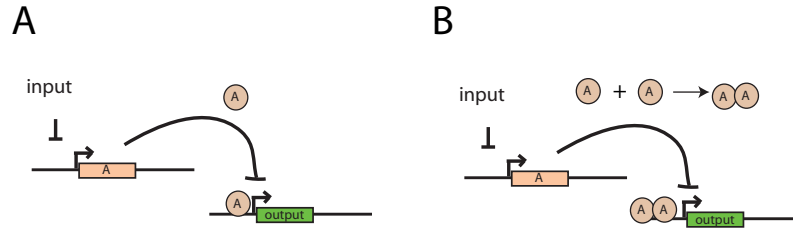

Figure 3: Schematic for question ??
- 1.4 Consider the cascades in figure 3. Which configuration allows for the largest effective Hill Coefficient to be achieved? (2 pts)